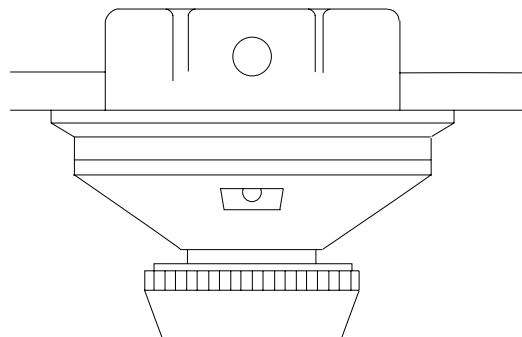
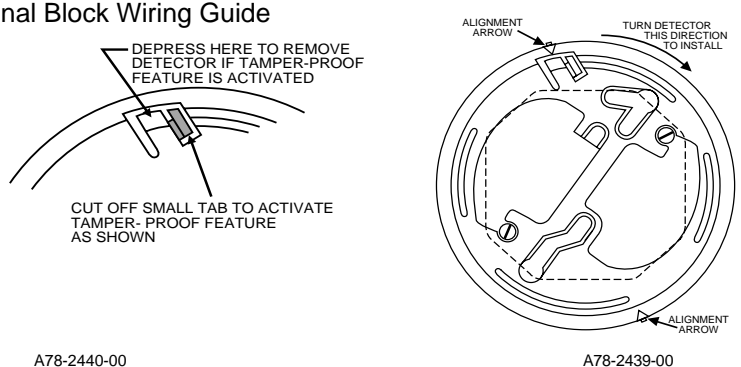

Figure 1. Mounted CP300
Figure 4. Mounting Bracket Detail
The CP300 and CP300A include a plug-in screw terminal block and a mounting bracket. The terminal block allows the detector to be disconnected from the system without loss of power to the remaining loop. The mounting bracket provides a tamper proof feature that, when activated, will require the use of a tool to remove the detector (Figure 4).
Model CP300 and CP300A detectors are supplied with a mounting bracket (Figure 4) that permits mounting the detector to:
1. Mount adapter bracket to junction box as shown in Figure 4. Activate tamper-proof feature if necessary.
5. Attach the detector to the mounting bracket. Alignment marks on the detector should be aligned with the arrows on the mounting bracket. Push detector against adapter bracket and rotate clockwise to secure in place (Figure 4). A mounted detector is shown in Figure 1.
The adaptor bracket (Figure 4) includes a tamper-proof feature that prevents removal of the detector without the use of a tool. To activate this feature, cut the smaller tab off of the tamper proof tab located on the detector mounting bracket (see Figure 4). To remove the detector after the tamper-proof feature has been activated, depress the tamper-proof tab where shown in Figure 4 and turn the detector counterclockwise.